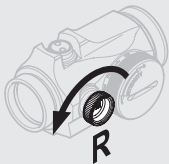
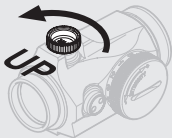

Fig. 3 Windage adjustments
Fig. 4 Elevation adjustments
- d** Use the adjustment cap (1) or the tool (12 A) to turn the adjustment screws (4) and (3). Place the knobs on the adjustment cap (1) into the recesses on the adjustment screws (4) and (3).
- e** Windage adjustments (see Fig. 3):
- Turn windage adjustment screw (4) counterclockwise to move point of impact to the right.
- Turn windage adjustment screw (4) clockwise to move point of impact to the left.
- f** Elevation adjustments (see Fig. 4):
- Turn elevation adjustment screw (3) counterclockwise to move point of impact up.
- Turn elevation adjustment screw (3) clockwise to move point of impact down.